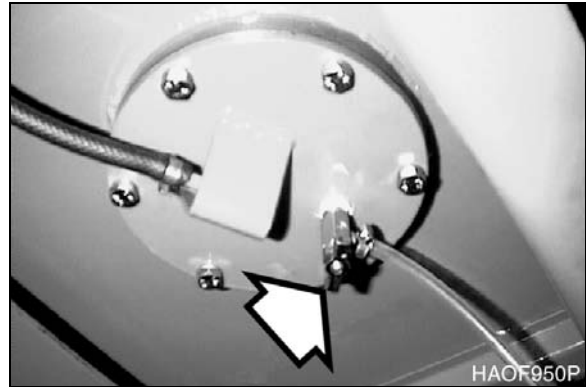

Figure 6
14. Place a large enough container under the tank to collect remaining fuel. Open the drain valve (Figure 6) at the bottom of the tank and empty the tank.